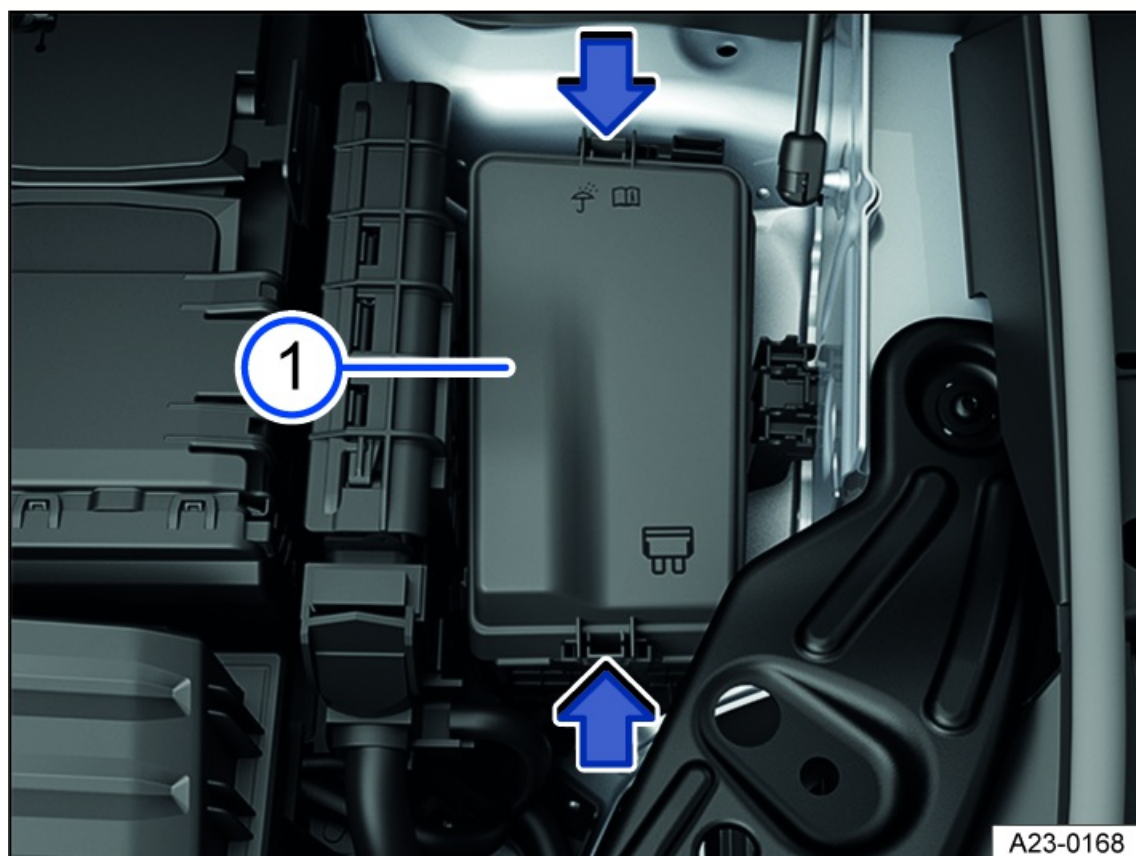

Fig. 143 In the hood space: fuse box (general example).
2. Press the catches in the direction of the arrow to unlock the fuse box cover *fig. 143* ①.